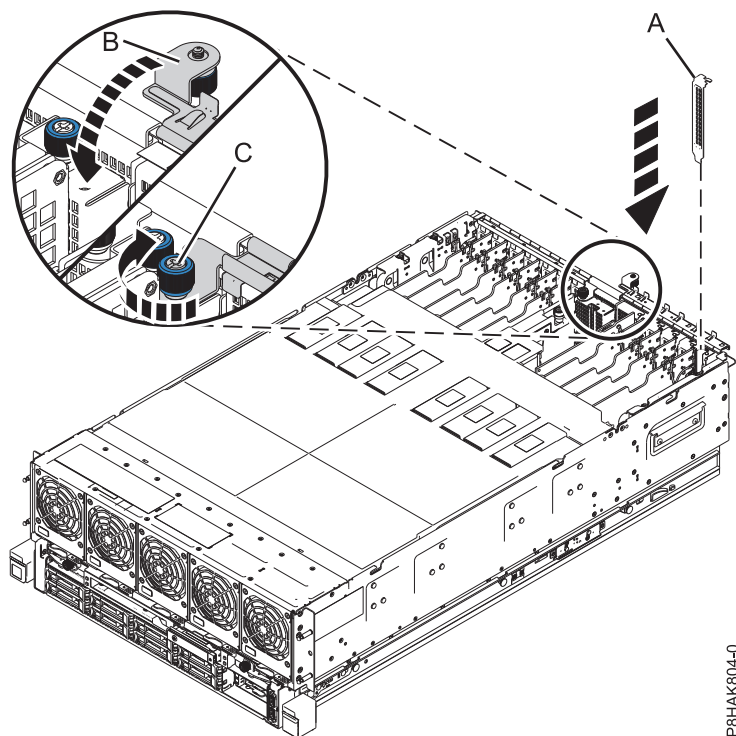

Figure 27. Installing a filler in a PCIe adapter slot in a 8408-44E or 8408-E8E system
- a. Carefully grasp the filler tailstock and align the filler with the slot and its connector on the system backplane, see (A) in Figure 27.
- c. Close the I/O retention bracket by rotating it down towards the system (B). See Figure 27.
- d. Screw the I/O retention bracket captive thumbscrew clockwise (C), as shown in Figure 27.